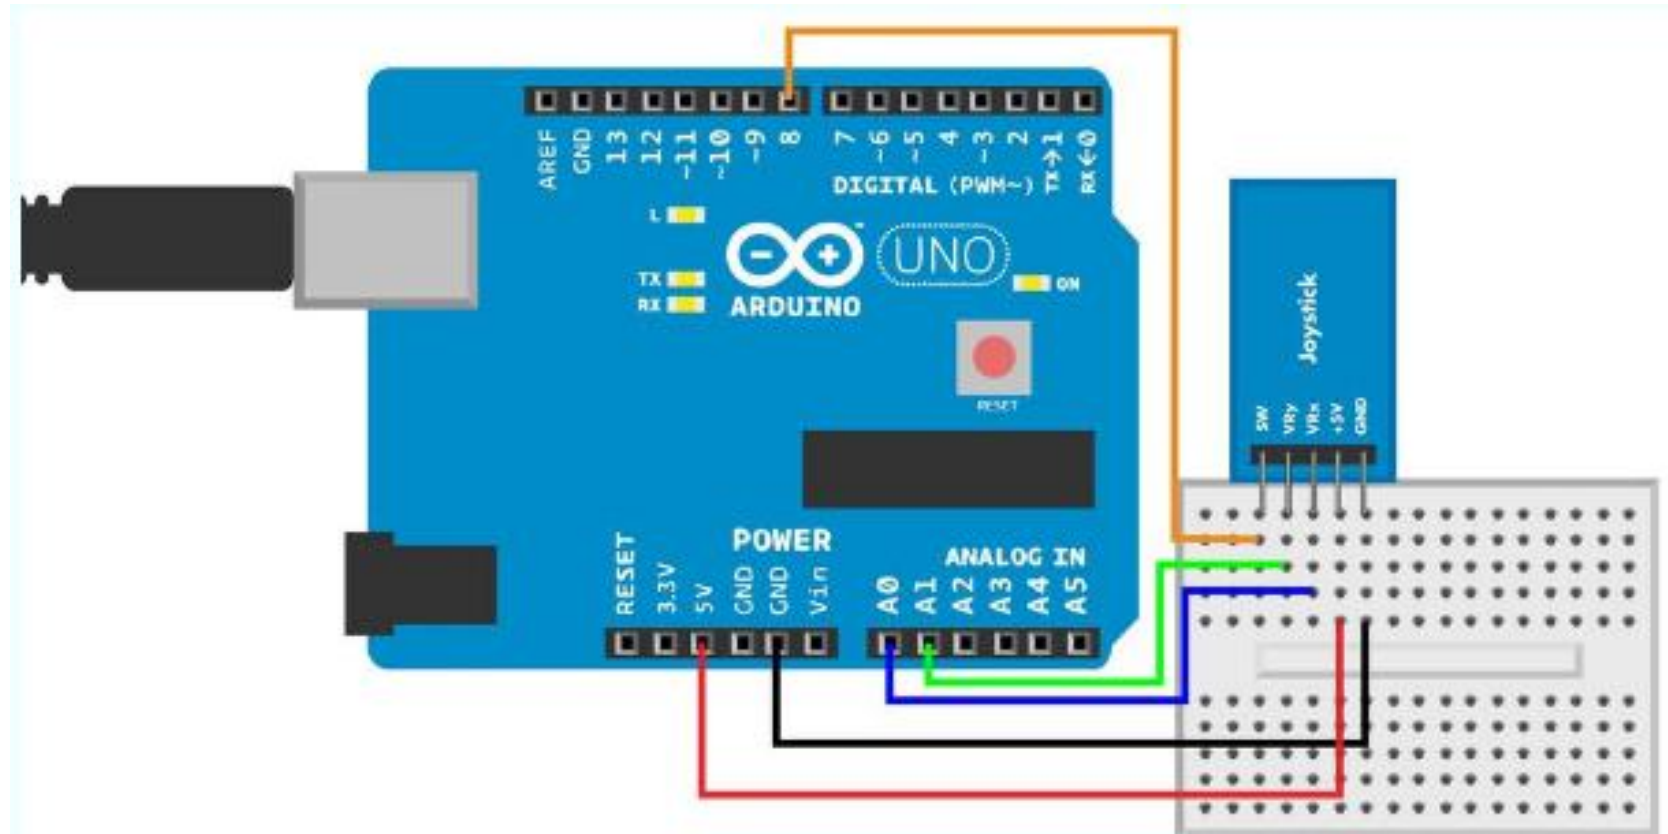

Figure 6-11. Joystick circuit for Arduino
- Figure 6-11 shows the circuit design for using Arduino with a joystick. Wire it up and run the sketch shown in Example 6-7.